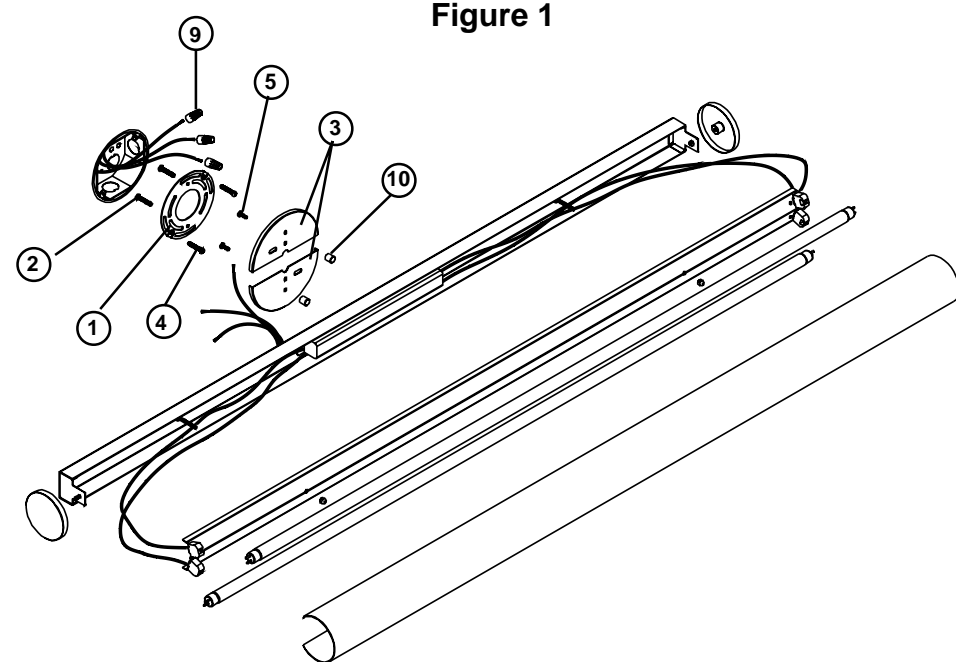

Figure 1
1. Remove fixture components and parts pack(s). Check that all parts are included. **See Figure 1.** Unscrew one end cap and slide diffuser off and remove both lamps. Remove packing material. Warning: Safely dispose of packaging materials.